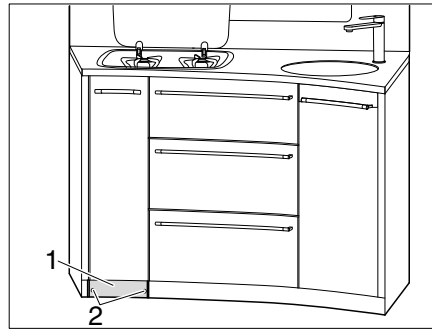

Fig. 131 Unscrewing skirting board
- Unscrew 2 screws (Fig. 131,2) from the skirting board (Fig. 131,1).
- Remove the skirting board (Fig. 131,1).